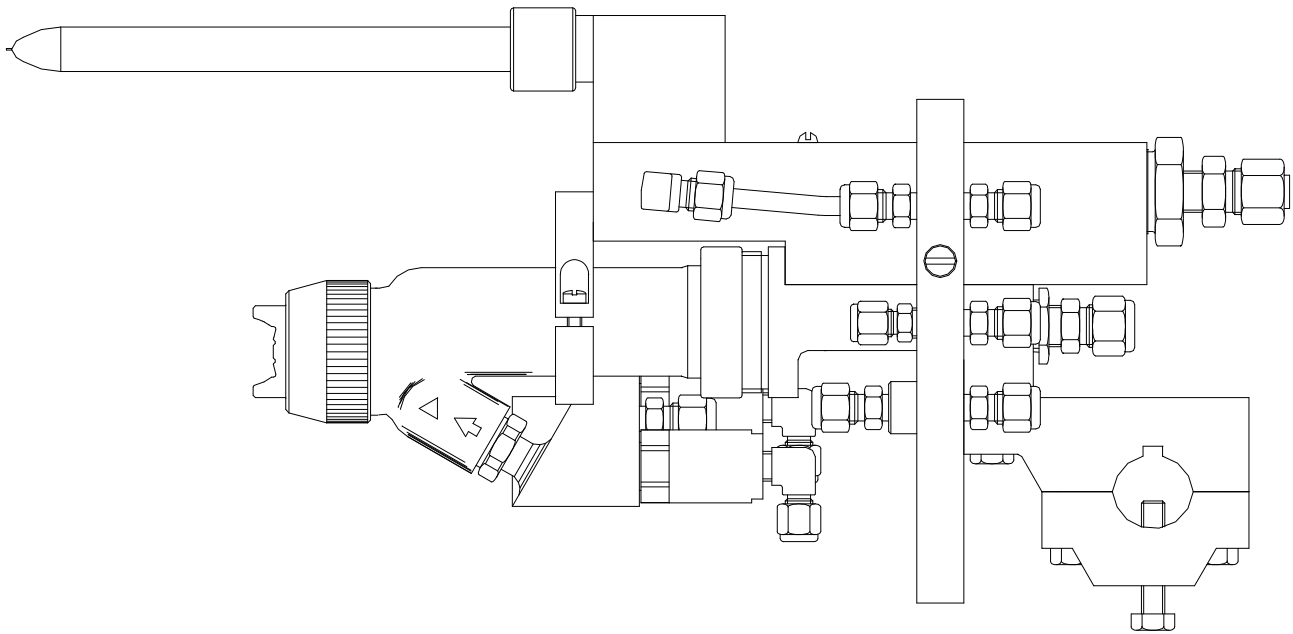

**Figure 3: Gun Tool-Point Representation
► To allow for ease of configuration, operation, and modification of robot teach patterns, the following X/Y vertices are provided. (Refer to Figure 3 for explanation of coordinates). Optimum spray pattern is achieved at a distance of 10 - 14 inches from tip.